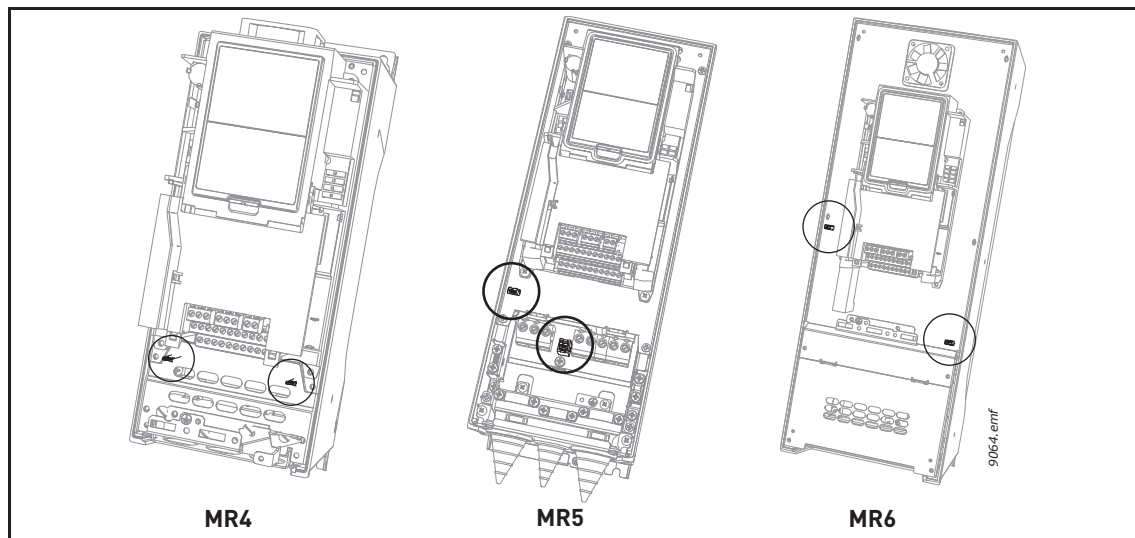
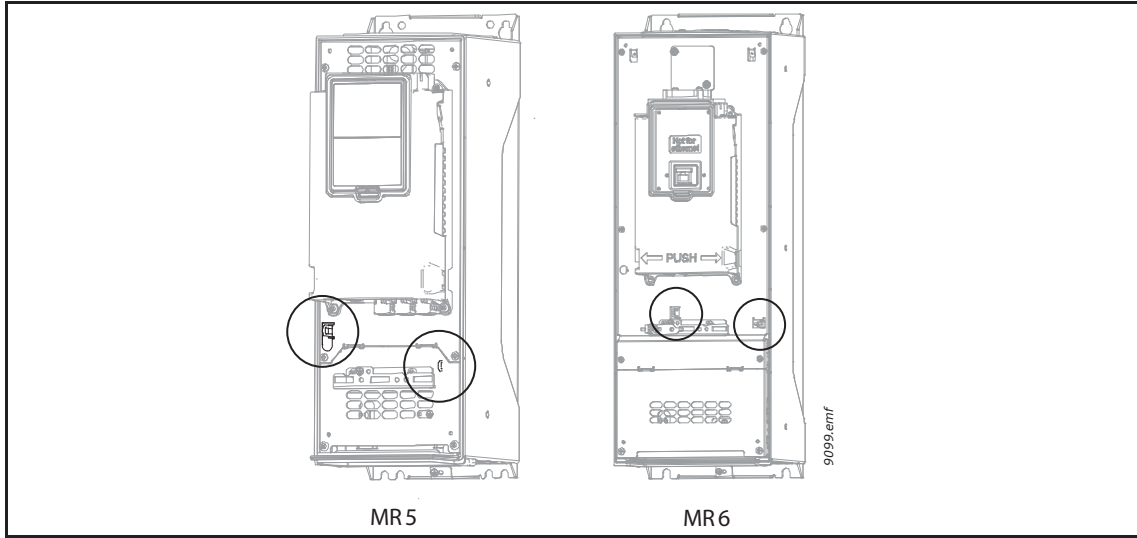

Figure 41. Current locations of the EMC-jumpers in frame MR4, old locations in frames MR5 and MR6
Figure 42. Current locations of the EMC-jumpers in frames MR5 and MR6
Remove the main cover of the drive (see pages 24 and 31) and locate the jumpers connecting the built-in RFI-filters to ground. See Figure 41. and Figure 42.
**NOTE:** The locations of the EMC-jumpers have changed in frames MR5 and MR6. Figure 41. shows the old locations and Figure 42. the new locations in frames MR5 and MR6.